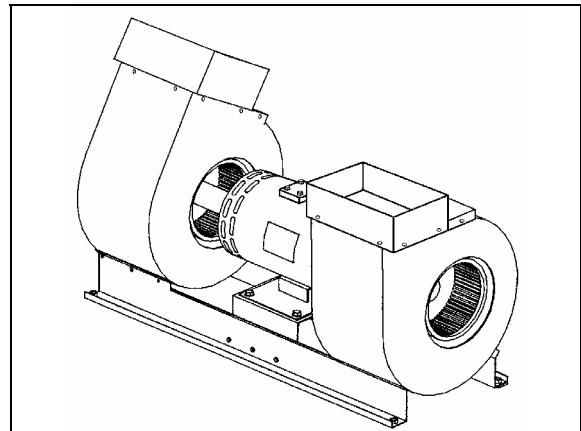

FIGURE 24: EVAPORATOR MOTOR ASSEMBLY
6. From under the vehicle, remove the eight bolts fixing the double blower fan unit base. Remove the complete unit from the evaporator compartment (Figure 24).